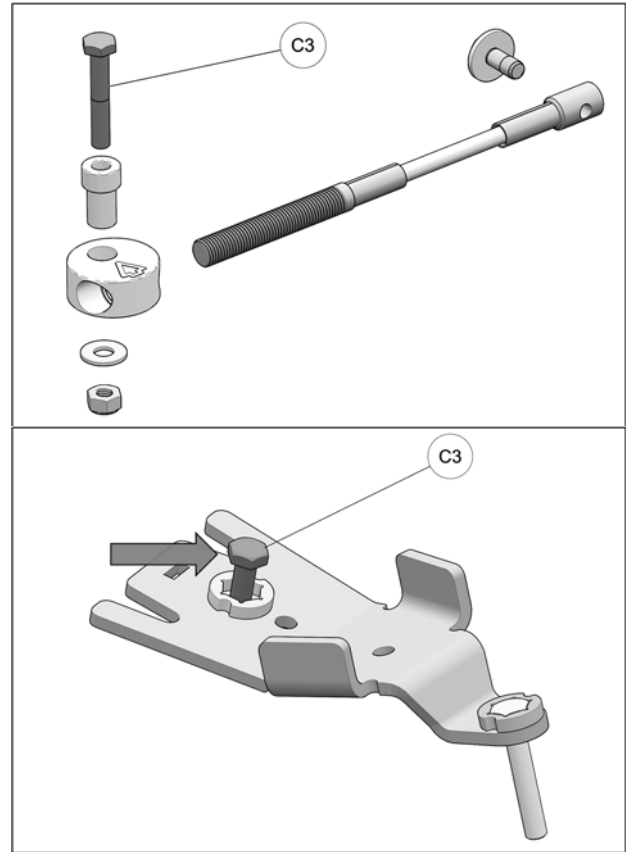

Fig. 16
5. Retrieve the M10x60mm bolt (C3) from the Steering Limiter assembly and insert it in the front anchor bracket as shown in Fig. 16